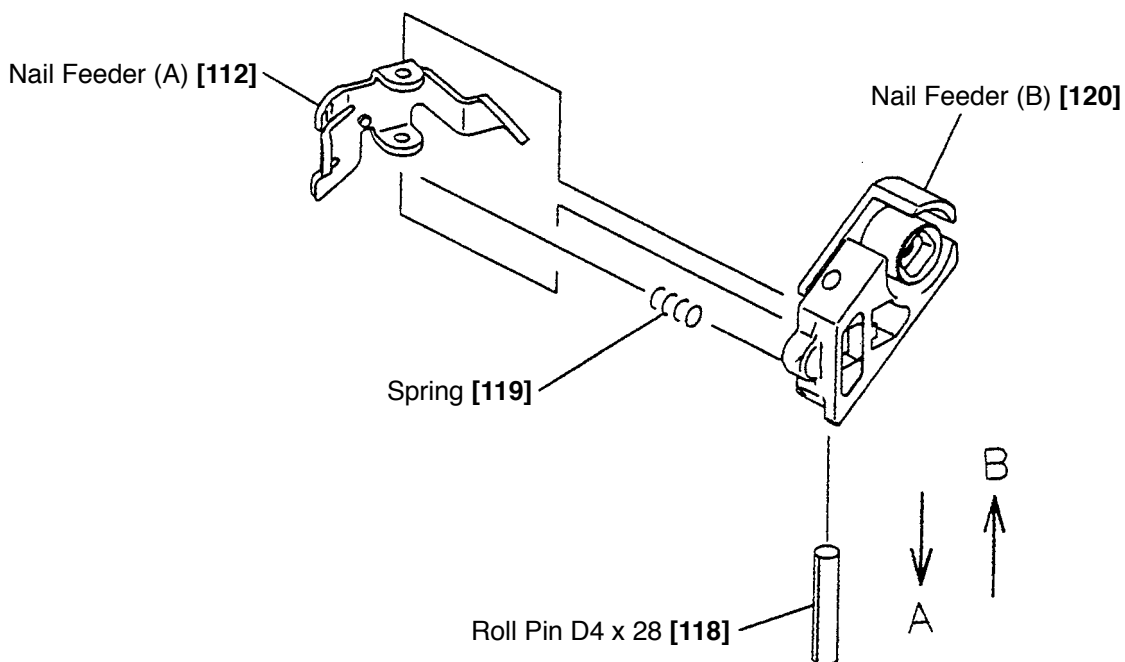

Fig. 52
- Remove the Lever Stopper [116] from the trigger of Handle (A) [124] with a hand.
- Remove the Roll Pin D4 x 28 [118] in "A" direction as shown in Fig. 52. Then Nail Feeder (A) [112], Spring [119] and Nail Feeder (B) [120] can be removed.
- Mount Nail Feeder (A) [112] and the Spring [119] to Nail Feeder (B) [120] and drive the Roll Pin D4 x 28 [118] in "B" direction as shown in Fig. 52 to secure it. Do not protrude the end of the Roll Pin D4 x 28 [118] from Nail Feeder (B) [120].